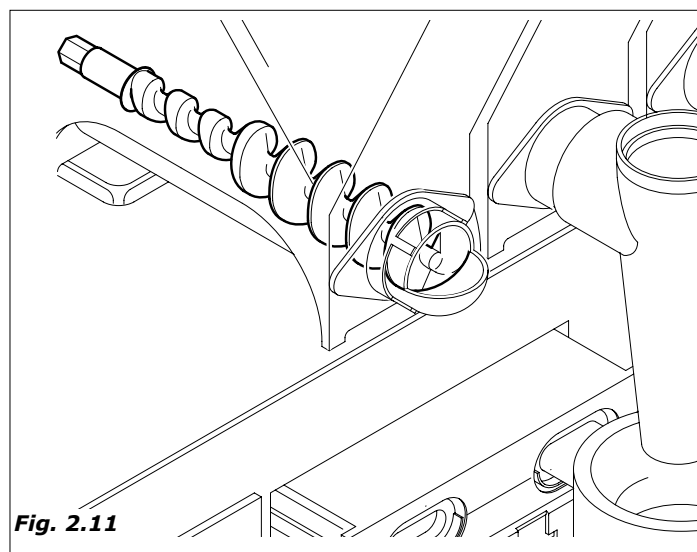

Fig. 2.11
- The instant product geared motor activates the helicoidal screw conveyor so as to dispense the quantity of product programmed into the mixer (in some versions several products can be processed in the same mixer such as milk and chocolate) (Fig.2.11)
- Once the preset water and powder quantity has been preset has been supplied, the mixer is disabled after a time (T) set during the programming.